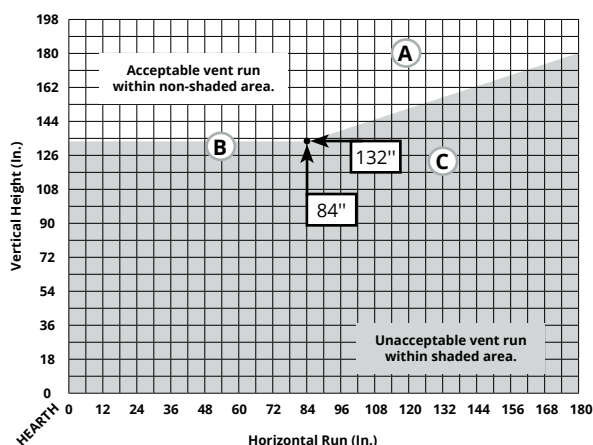
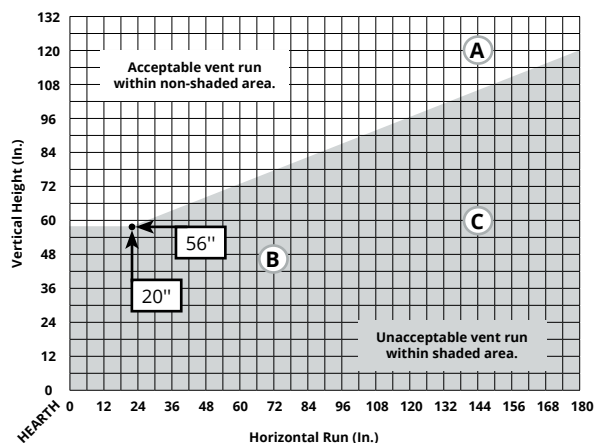

Figure 12. 5"/8" Top Vent Venting Graph for wall mounted terminations.
Figure 13. 5"/10" Top or Rear Vent Venting Graph for wall mounted terminations.
Measure the vertical height from the fireplace hearth to the centre of the termination and the horizontal run from the fireplace flue collar to the wall flange of the termination. Plot on the Venting Graph Figure 12 or 12b with an 'X'.
- Venting runs must fall within the limits set by the venting graph, see Figure 12 or 12b.
Figure 12.b 5"/8" Top Vented, wall mounted installation with one 90° bend. The vent run must comply with Venting Graph for Top vent, wall mounted terminations, Figure 12.
Measure the vertical height from the fireplace hearth to the centre of the termination and the horizontal run from the fireplace flue collar to the wall flange of the termination. Plot on the Venting Graph Figure 13 with an 'X'.
- Venting runs must fall within the limits set by the venting graphs, see Figure 13.
Figure 13.b 5"/10" Top Vented, wall mounted installation with one 90° bend. The vent run must comply with Venting Graph for Top vent, wall mounted terminations, Figure 12
Figure 13.c 5"/10" Rear Vented, wall mounted Multi-elbow termination installation. The vent run must comply with the Venting Graph for Rear vent, wall mounted terminations